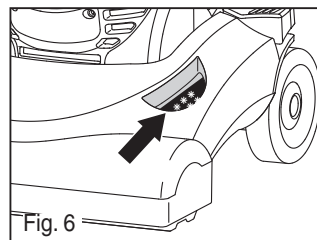

Fig. 6
- 8) Check belt view window to see if white dots on belt are moving. This indicates brush roll is turning (Fig. 6).